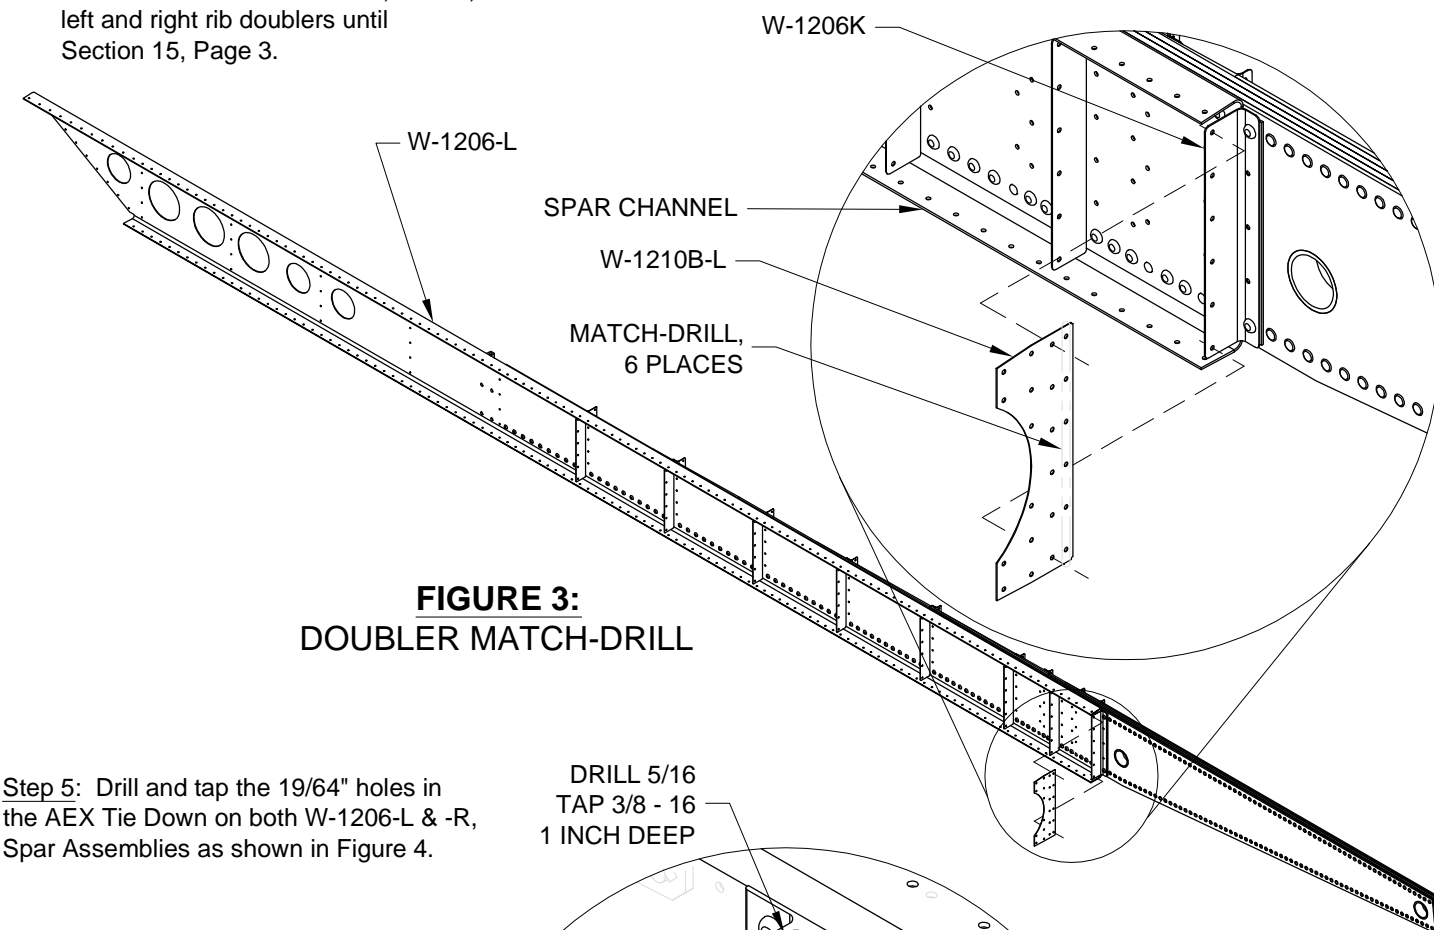

FIGURE 3:
Step 3: Cleco the second row of holes in the W-1210B-L Left Rib Doubler to the W-1206K Attach Angle, which is part of the W-1206-L Spar Assembly, at the inboard end of the spar channel, as shown in Figure 3.
Step 4: Using an extended #30 drill bit, match-drill the first row of holes of the W-1210B-L Left Rib Doubler into the W-1206K Attach Angle as shown in Figure 3.